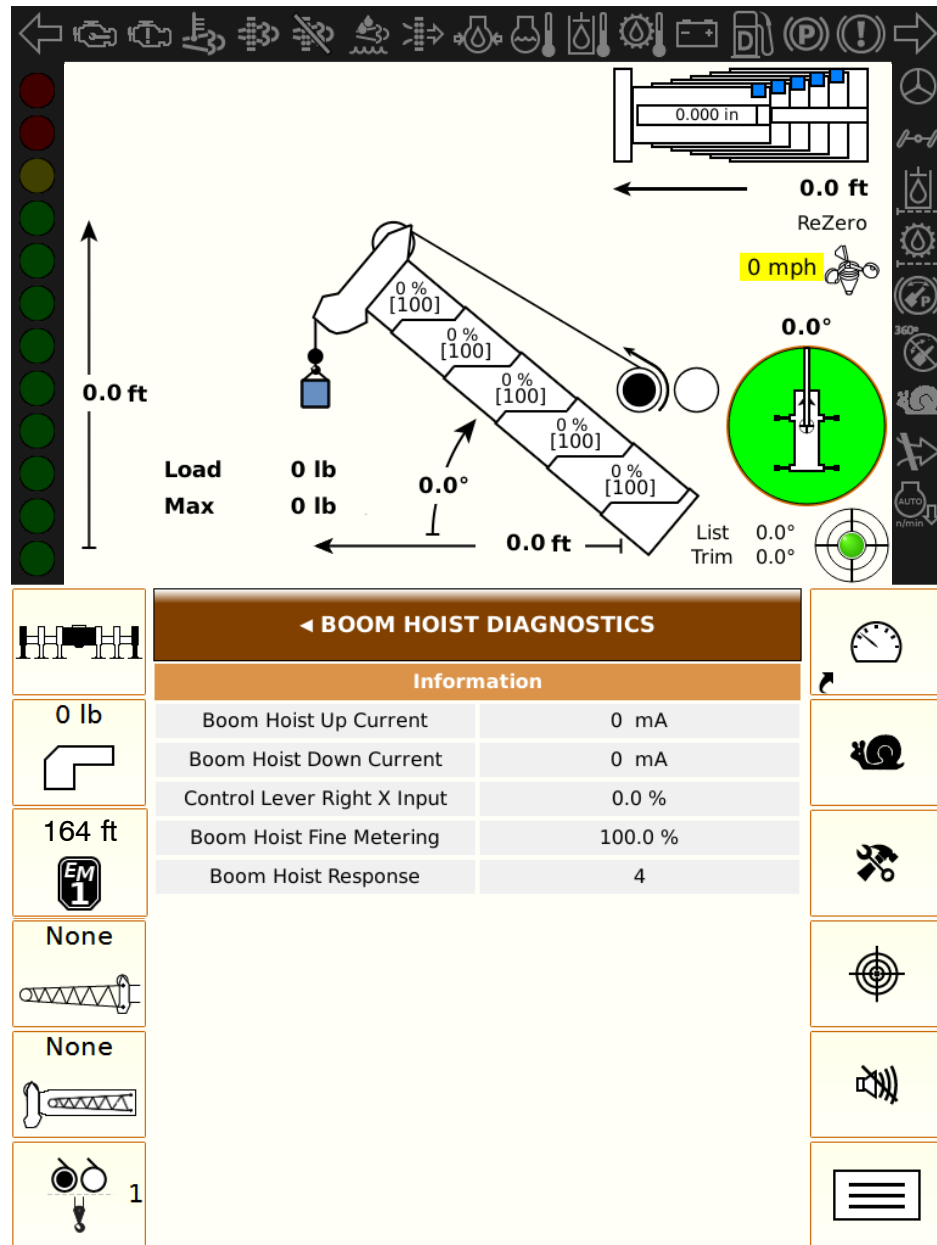

Figure 1–137
3. The Crane Functions Diagnostics Menu will appear. Press the Front Winch Button. Refer to Figure 1–134.
4. Refer to Figure 1–136.